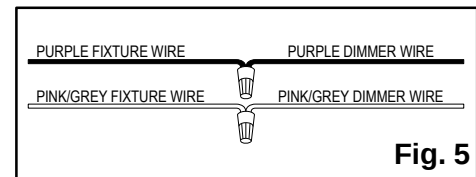

Fig. 5
1. Pull wires from light fixture hole, the dimming wires will be wrapped around the power supply wires. (Fig. 6) Connect the **purple** and **pink/grey fixture wires** to corresponding wires of the wall **dimmer**. (Fig. 5)